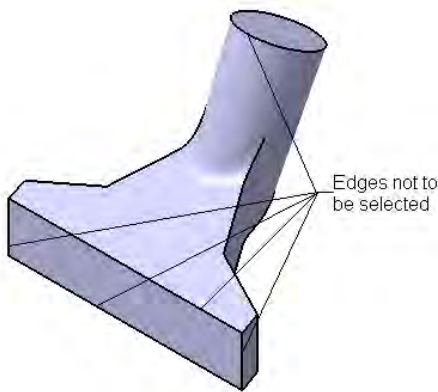

Figure 5-83 Edges not to be selected
4. Select all edges of the model, except the edges that are shown in Figure 5-83.